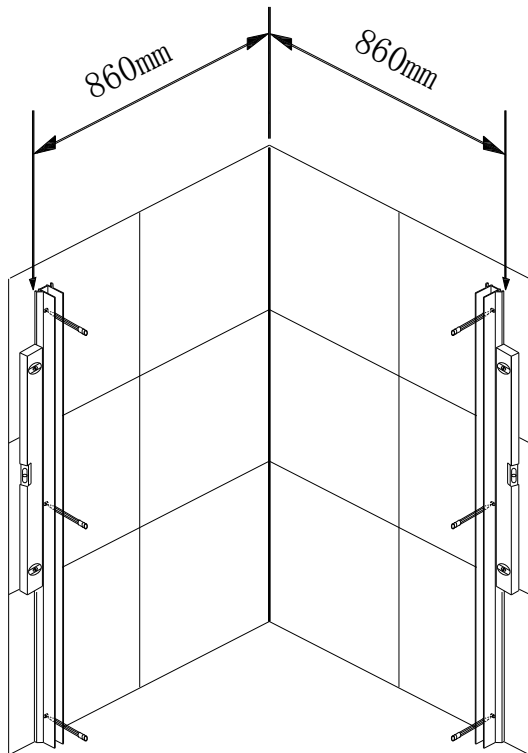

Fig. 1
- 1). Put the wall profiles on the walls, keep the distance between profiles and wall is 860mm. adjusting the profiles to make sure it is vertical. Mark the holes on the wall. As FIG.1